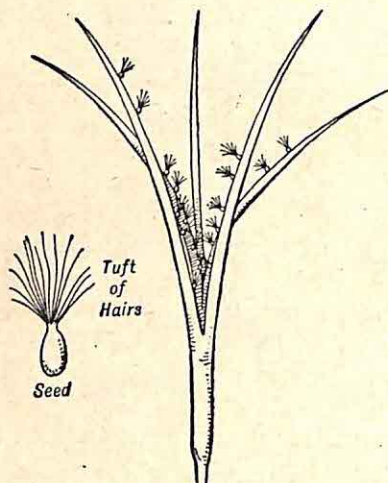

FIG. 157.—WILLOW-HERB.
*Wind dispersal* occurs with very light seeds, such as those of orchids. Dandelion (Fig. 156) or thistle fruits, and willow-herb seeds (Fig. 157) have tufts of hairs which give a parachute-like effect, while heavier fruits such as those of ash, sycamore